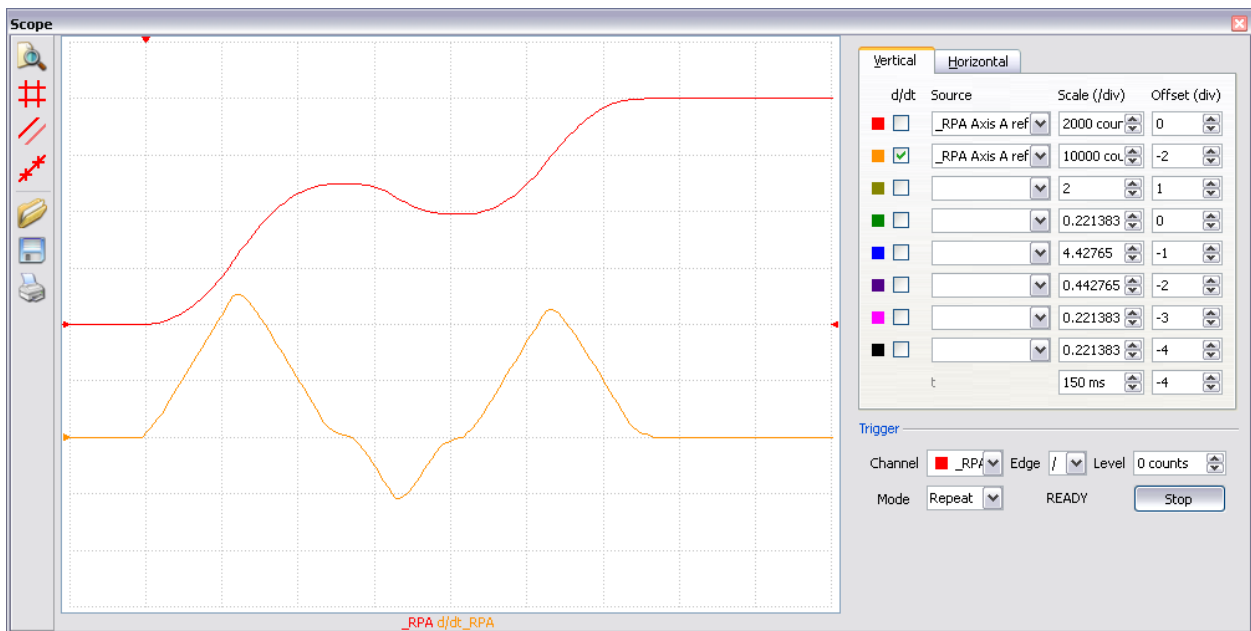

Figure 6.5: Position and Velocity vs Time (msec) for Motion 3 with IT 0.1
Figure 6.5 demonstrates the use of motion smoothing (IT) on the velocity profile in this mode. The jerk in the system is also affected by the values set for AC and DC.